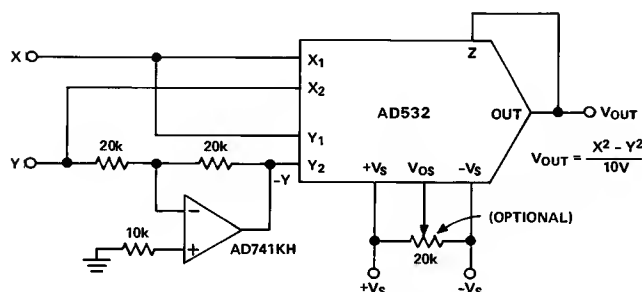

Figure 15. Differential of Squares Connection
The differential input capability of the AD532 allows for the algebraic solution of several interesting functions, such as the difference of squares,  $X_2 - Y_2 / 10 \text{ V}$ . As shown in Figure 15, the AD532 is configured in the square mode, with a simple unity gain inverter connected between one of the signal inputs (Y) and one of the inverting input terminals ( $-Y_{IN}$ ) of the multiplier. The inverter should use precision (0.1%) resistors or be otherwise trimmed for unity gain for best accuracy.